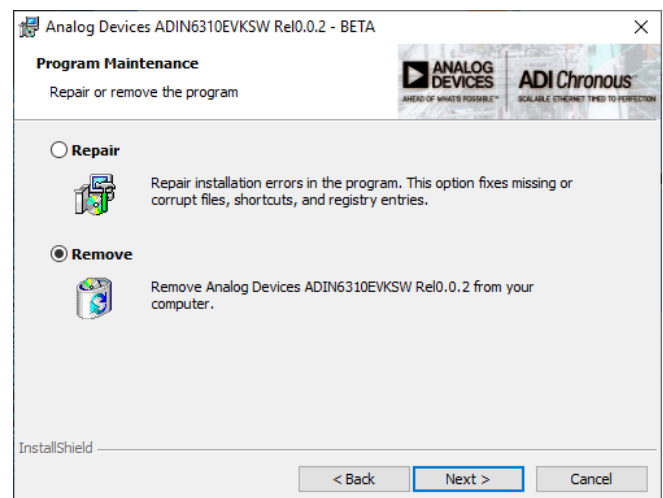

Figure 8. Remove or Repair Installation
- Select **Repair** or **Remove** and click **Next** (see Figure 8).